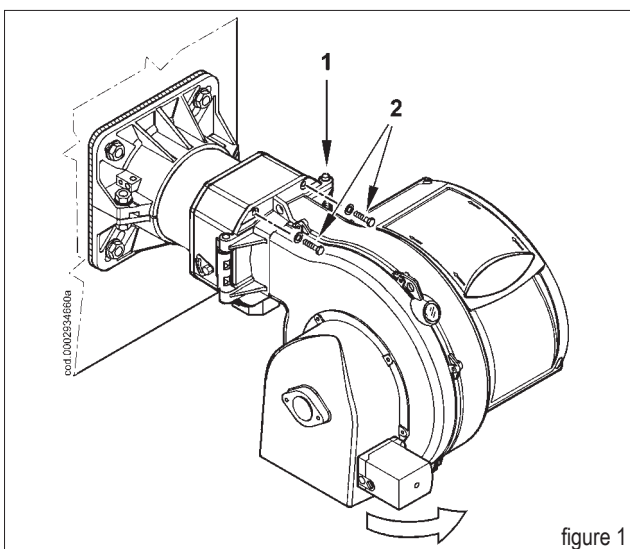

figure 1
Unscrew the two screws (2) and turn the burner around the pin (1) in the hinge (figure 1).